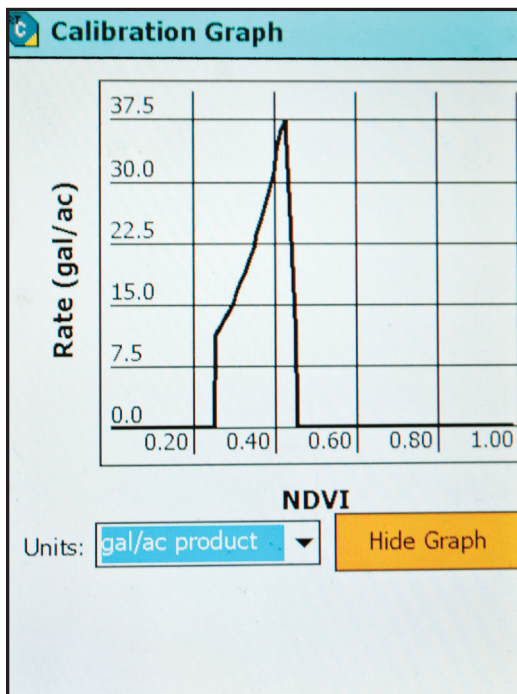

Figure 5. Example of algorithm calibration graph.
- After these crop parameters are input, you can “Show Graph” to see the algorithm (fig. 5). Click “Hide Graph” to return to the Crop Measurement Parameters screen and click “OK.”